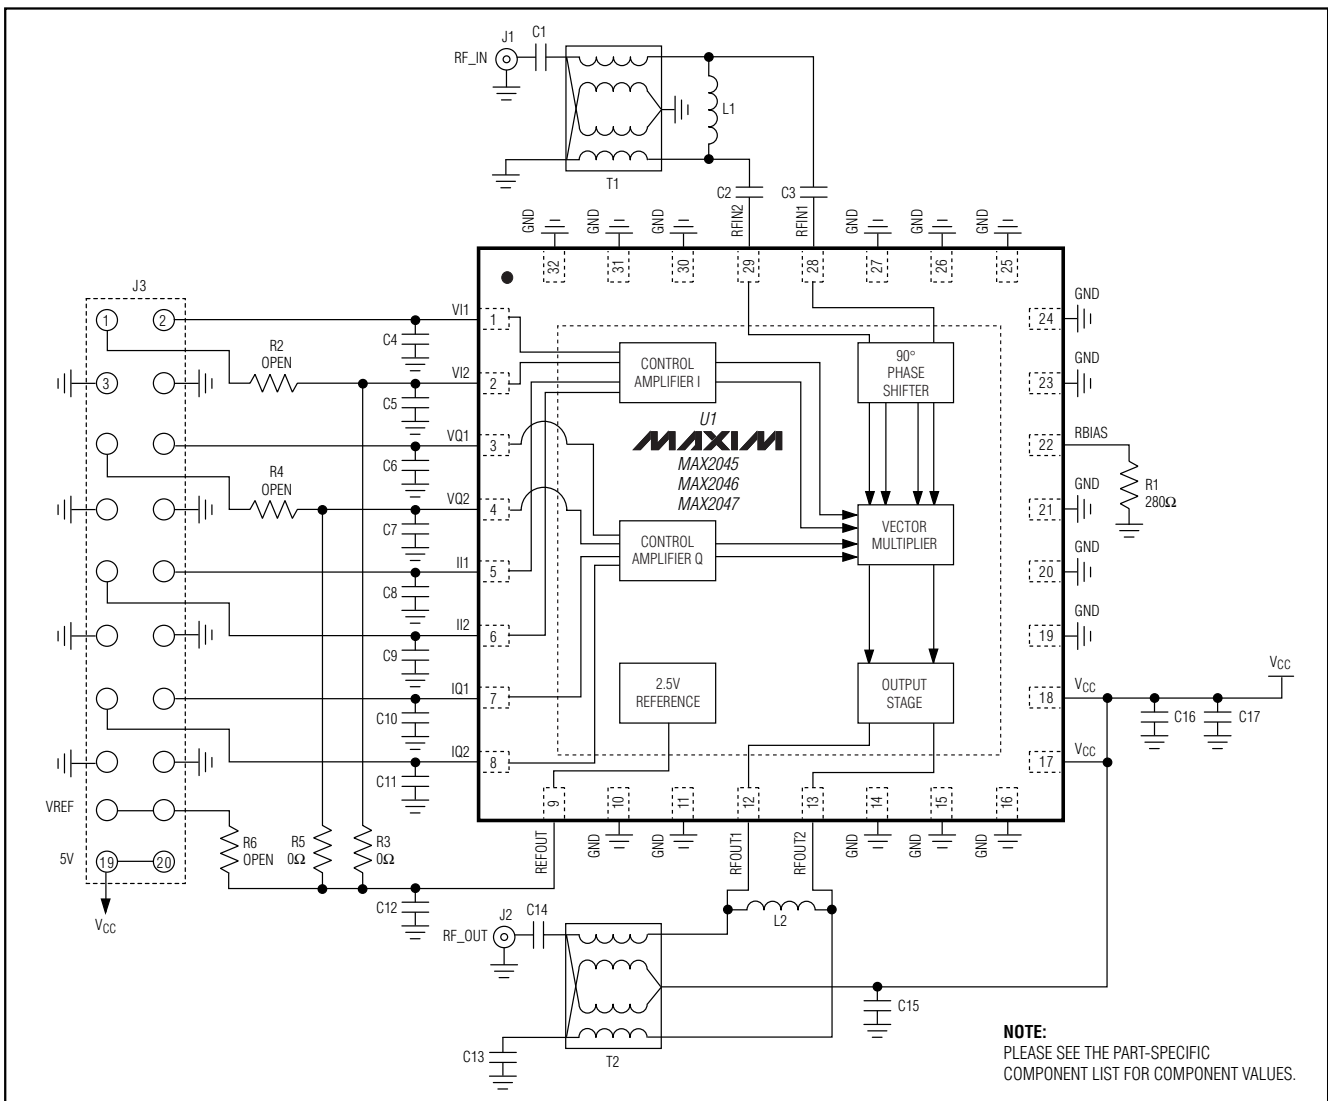

Figure 1. MAX2045/MAX2046/MAX2047 EV Kit Schematic
- 1) Connect a DC supply set to +3.2V to the VI1 and VQ1 terminals (Figure 1).
- 2) Connect a current source set to 4mA to the II1 and IQ1 terminals. Leave II2, IQ2, and all voltage-control pins open (Figure 1).
To operate the device in differential voltage-control mode, remove R5 and R3, and install 0Ω resistors for R2 and R4. Figure 1 shows the connections on the 20-pin header corresponding to the voltage- and current-control inputs. Using this configuration, an external DC source can also be applied to VI2 and VQ2 for single-ended operation using an external regulated voltage.